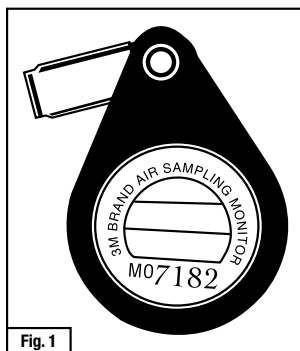

Fig. 1
3. Record the date, employee or area ID and sampling start time on the monitor label (Fig. 1).